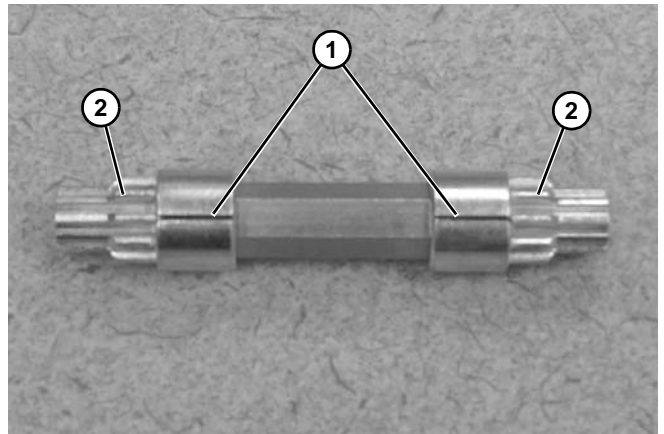

Figure 100
5. To reassemble, make sure that the lines (**Figure 100, item 1**) on the pinion end gears (**Figure 100, item 2**) are aligned.